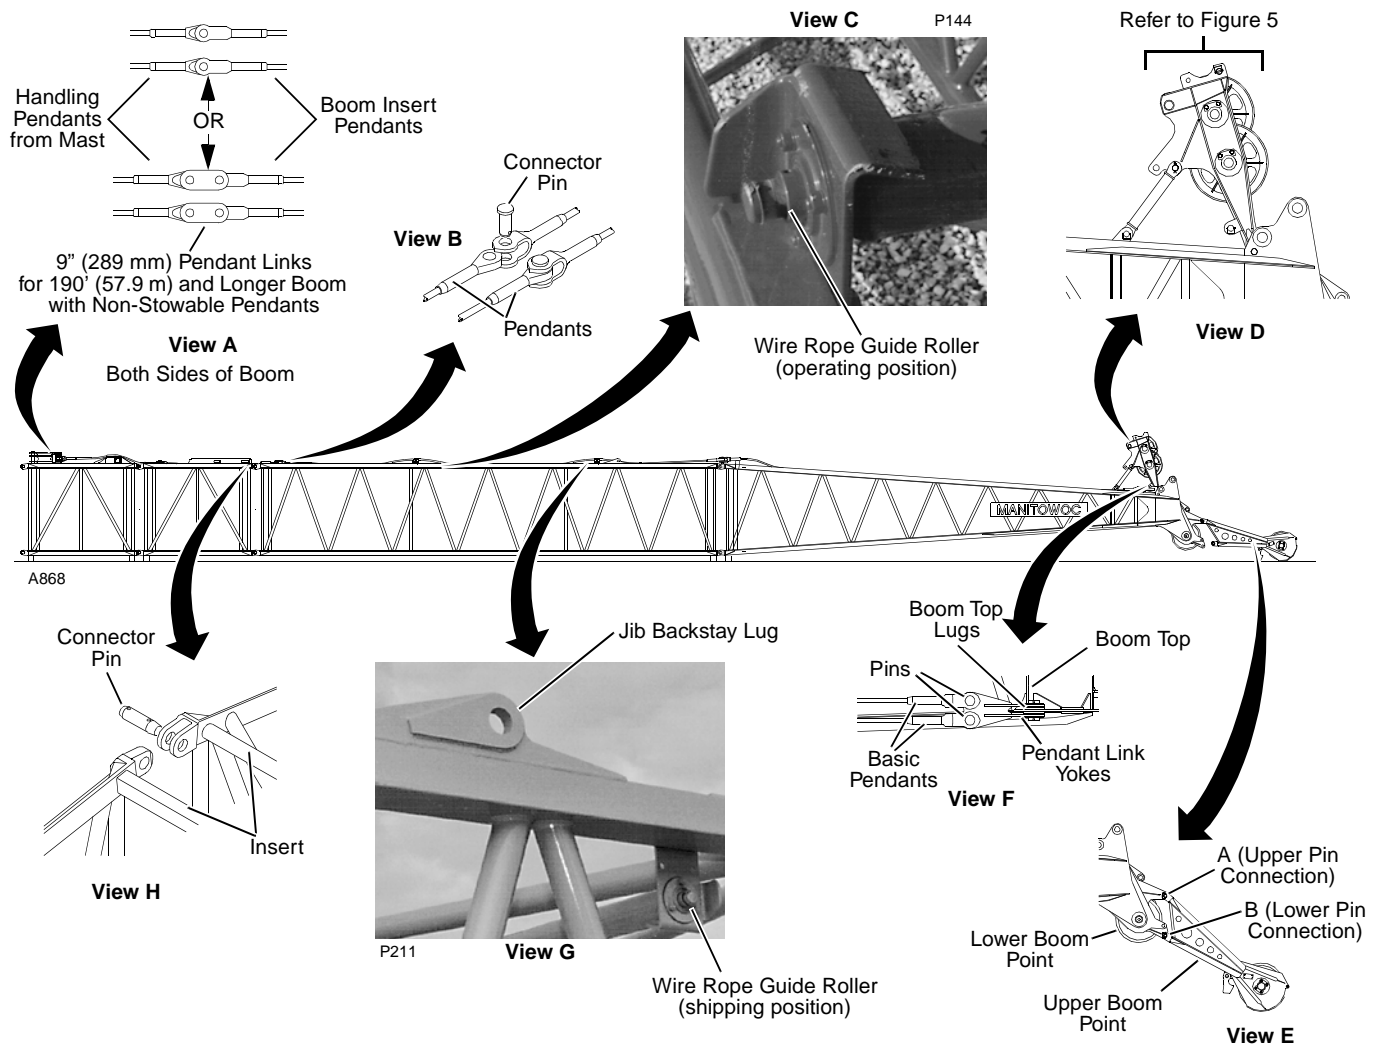

FIGURE 4
1. Place boom top on blocking (Figure 4):
- Wire rope rollers on inserts must face up. If wire rope rollers were shipped upside down (Figure 4, View G), unscrew and reattach brackets so rollers are right side up (Figure 4, View C).
- Pin inserts to top and to each other as shown in Figure 4, View H.
1. Pin pendant links to lower lugs on boom top. Pin basic pendants to pendant links. (Figure 4, View F).
3. Pin remaining pendants in proper sequence to basic pendants (Figure 6 and Figure 4, View B).
6. Install pendant connecting pins so heads are toward top (Figure 4, View B).
7. For 190 ft (57.9 m) and longer boom with non-stowable pendants, pin a 9 in. (289 mm) long pendant link to ends of last pendants installed (Figure 4, View A).
3. Connect handling pendants from mast to last set of boom pendants or to links on last set of boom pendants (Figure 4, View A).
2. Align upper boom point holes to boom top holes at A and install connecting pins and snap pins. Do not pin lower holes. This will allow upper boom point to rest on blocking (Figure 4, View E).
3. Install connecting pins and snap pins at holes B after upper boom point is clear of ground (Figure 4, View D).